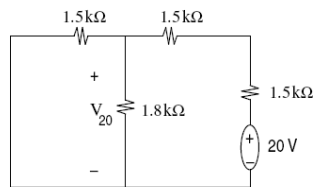

Figure-3
8. Theoretically determine V_{20} as indicated in **Figure-3**.